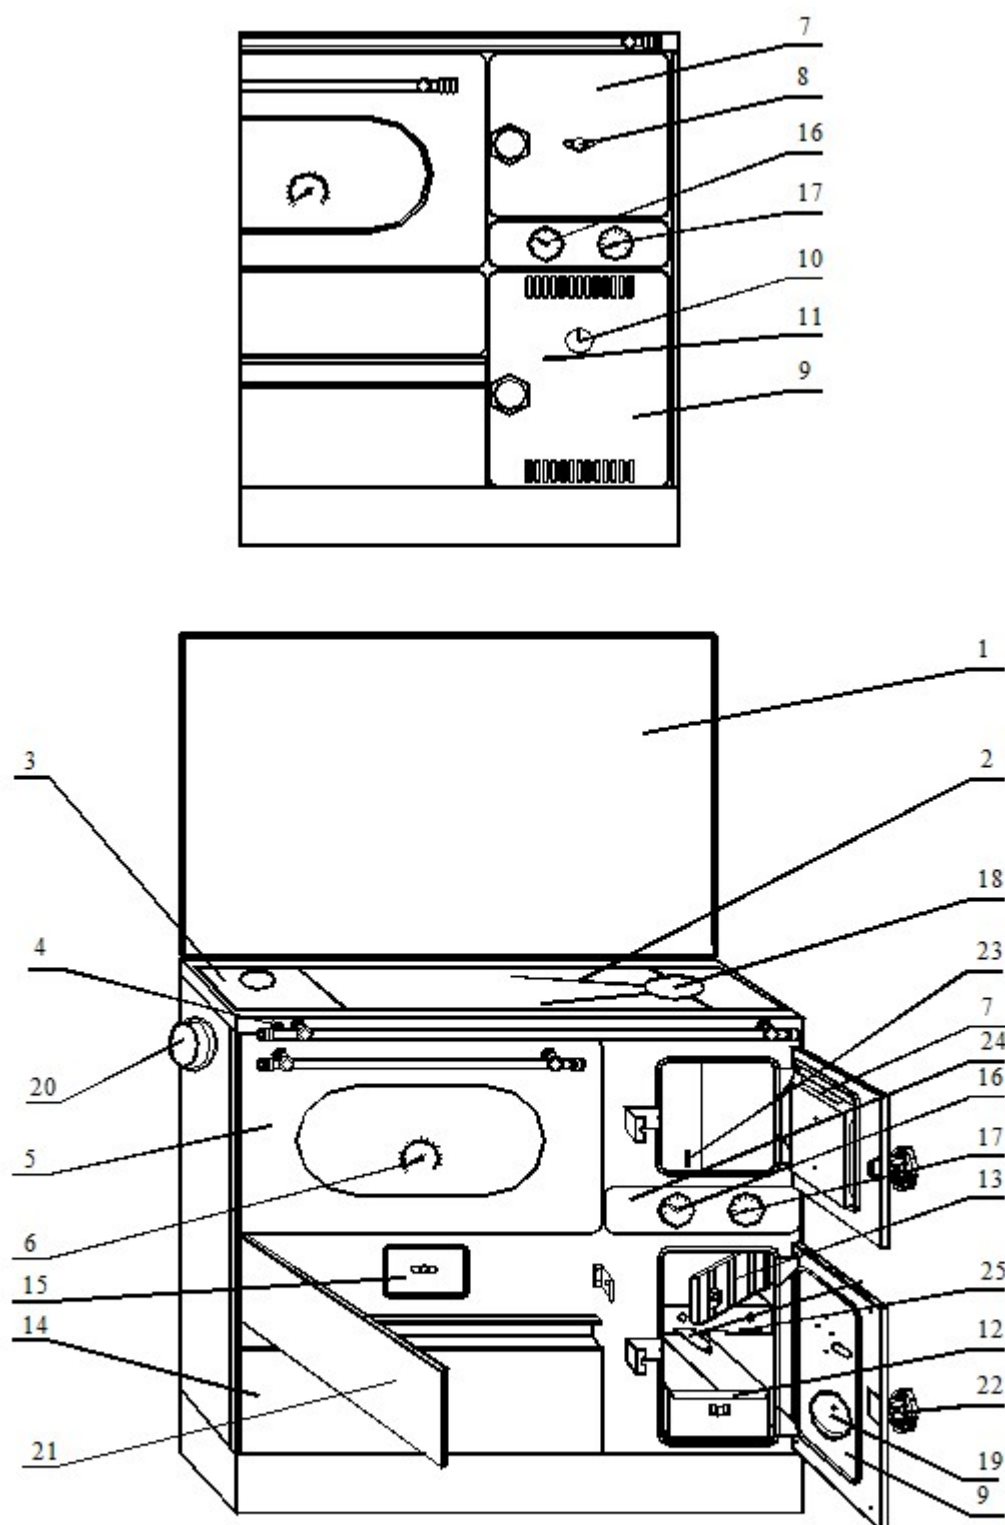
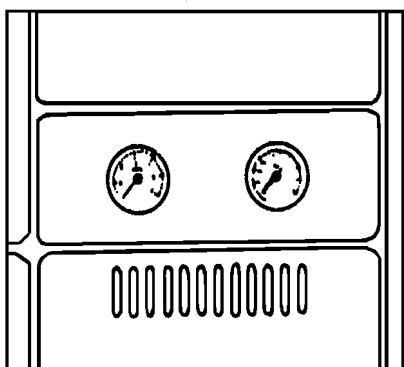

Figure 1
Figure 5
2. APPEARANCE AND STRUCTURE OF A STOVE WITH A FLOOR HEATING BOILER (fig.1)
- combustion regulator (thermostat) (fig. 1 pos.10), located in the ashtray door, which automatically closes the air intake in the stove firebox when the set water temperature in the boiler is reached,
- The combustion regulator (thermostat) with regulation knob (fig.1 pos.10) should properly open and close the regulator flap (fig.1 pos.19).
- The ember holder (fig.1 pos.13) should be properly placed in its bearing and should be easily open.
6.4 THERMOMETER AND MANOMETER (fig. 1 pos. 16 and 17 and fig. 5)
On the stove itself, on the additional cover (fig.1 pos.24) between the firebox door and the ashtray door, thermometer and manometer are mounted (fig.1 pos.16 and pos.17, and fig.5) so they do not have to be placed on the installation.